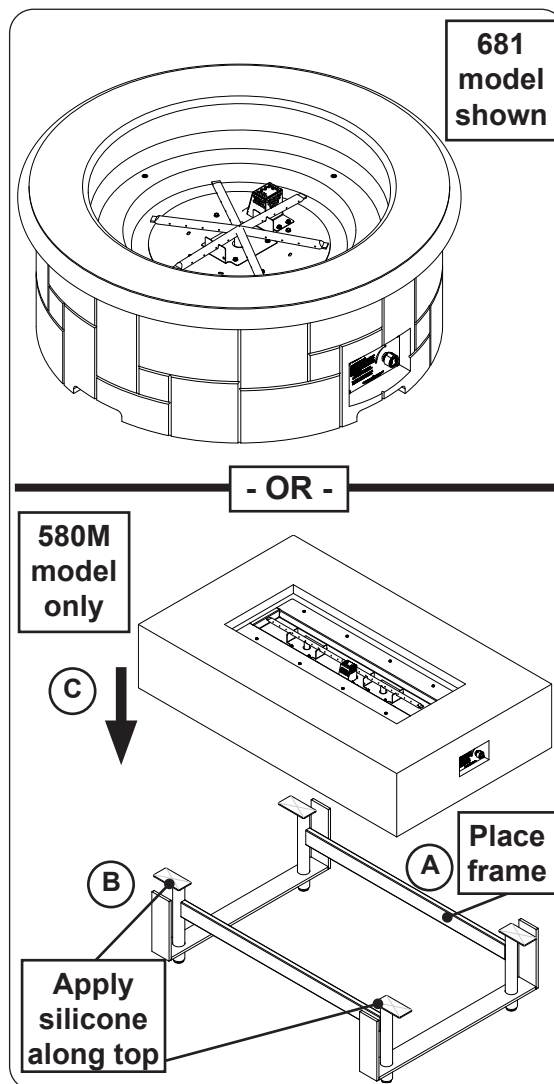

Fig. 24-1 Place unit
1. **CAREFULLY** place the unit in an appropriate location (see Fig. 24-1, and refer back to the LOCATION section if needed).